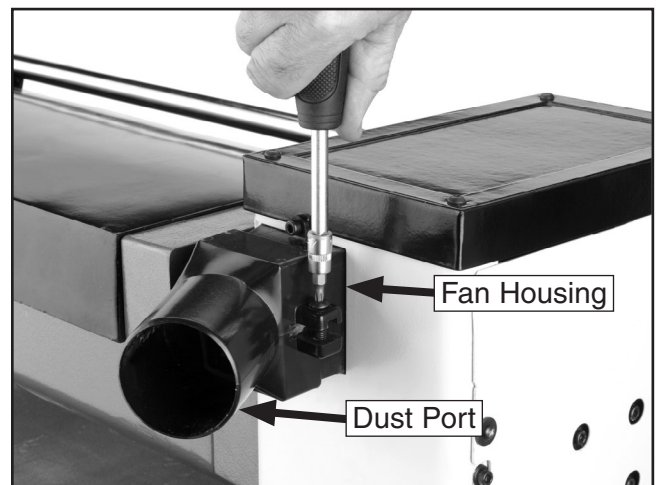

Figure 14. Installing dust port.
1. Slide the dust port over the fan housing and tighten the included Phillips head screw (**Figure 14**).